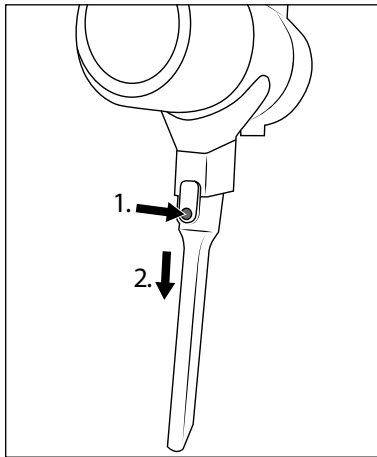

Fig. 14
- ◆ To remove the accessory, press and hold the release button on the accessory, then pull the accessory off the suction pipe **23** or the suction opening of the appliance (see Fig. 14).